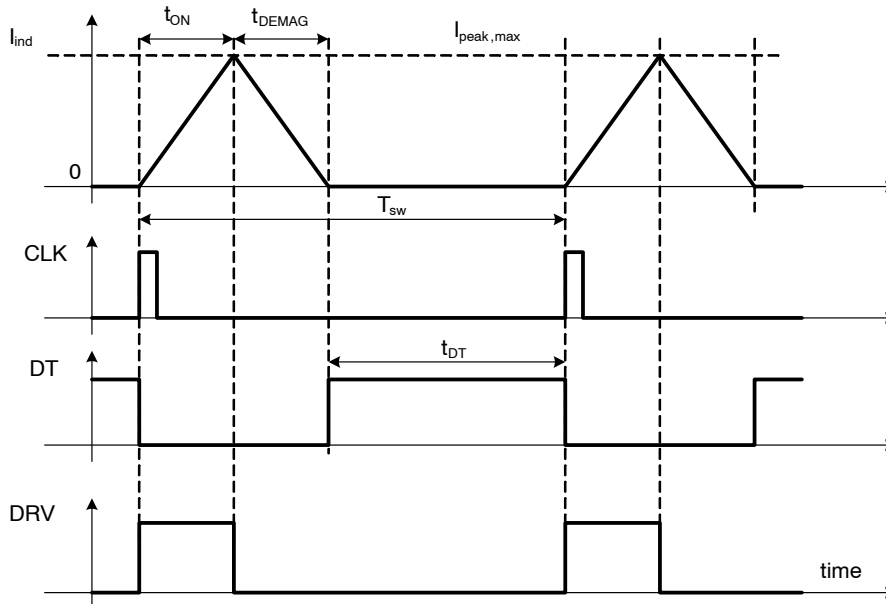

Figure 32. NCP1602 Clock, Dead Time and  $t_{ON}$  Waveforms
The Frequency Foldback (FF) system adjusts the on-time versus  $t_{DT}$  (see Figure 32) and the output power in order to ensure that the instantaneous mains current is in phase with the mains instantaneous voltage (creating a PF=1).